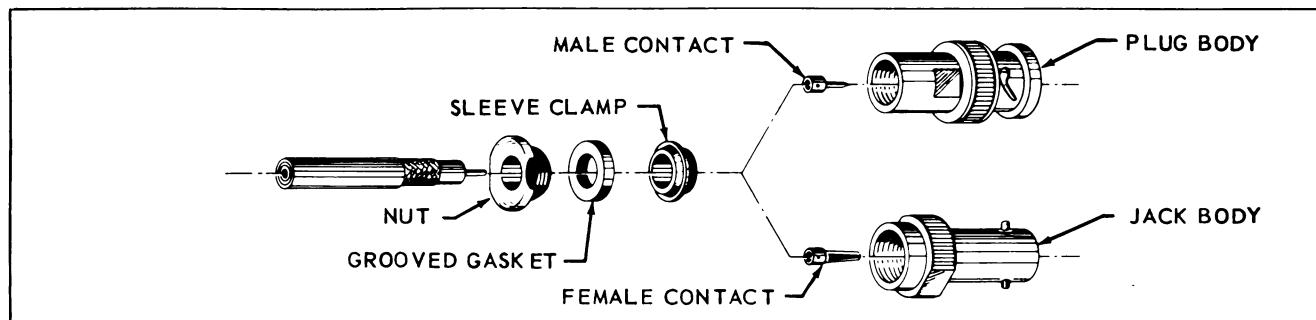

Figure 4-18. Improved BNC Connectors - Exploded View
c. Improved Version (see Figure 4-18) - consists of a plug or jack body assembled to coaxial cable with nut, grooved gasket and sleeve clamp. Plug UG-88C/U and Jack UG-89B/U are typical of this version. This improved version differs from the standard version in the shape of the sleeve clamp. The sleeve clamp has a sharp rear face which cuts into the grooved gasket and thus makes a tight seal.
d. Disassemble nut, grooved gasket and sleeve clamp from plug or jack body. See Figure 4-18.